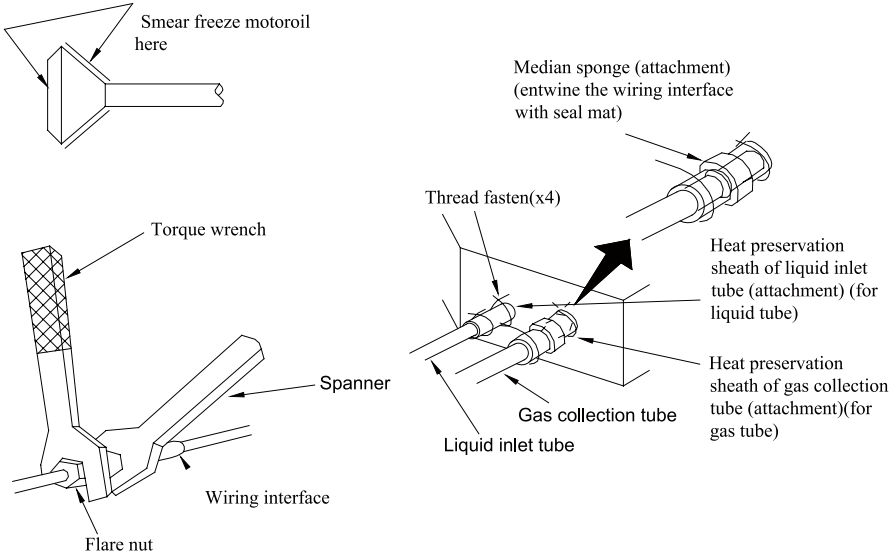

Fig.21
- When connect the pipe to the unit or backout it from the unit, please do use both spanner and torque wrench. As shown in Fig.21.
- Examine the connection pipe to see if it had gas leakage, and then take the treatment of heat insulation, as shown in the Fig.21.